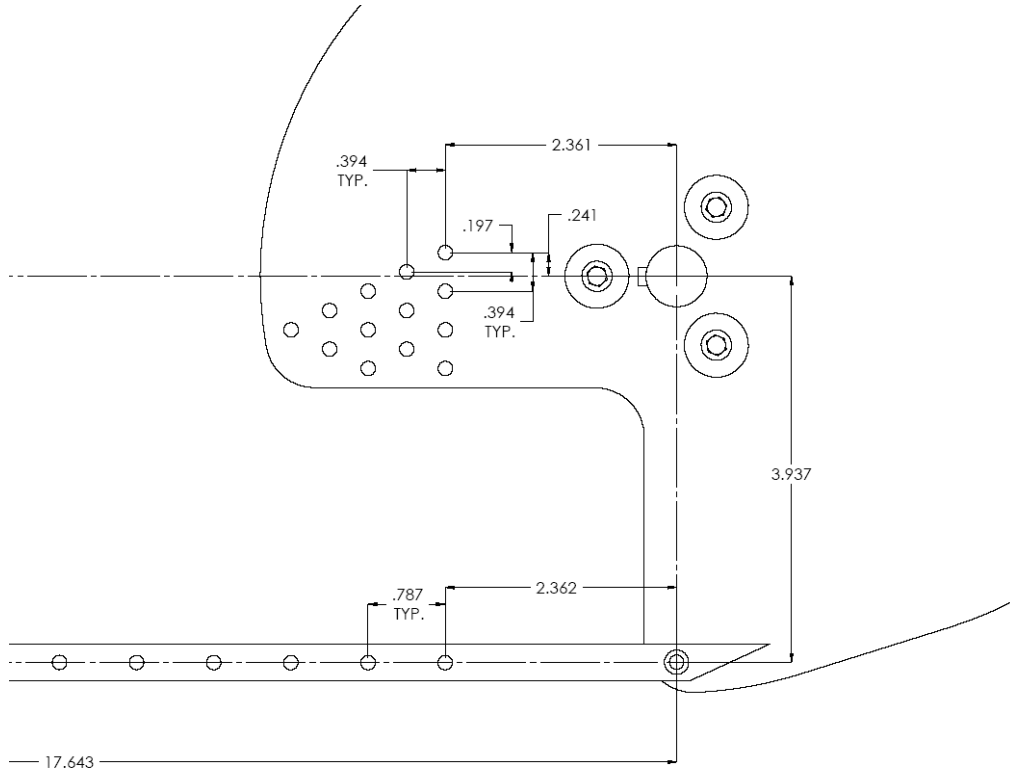
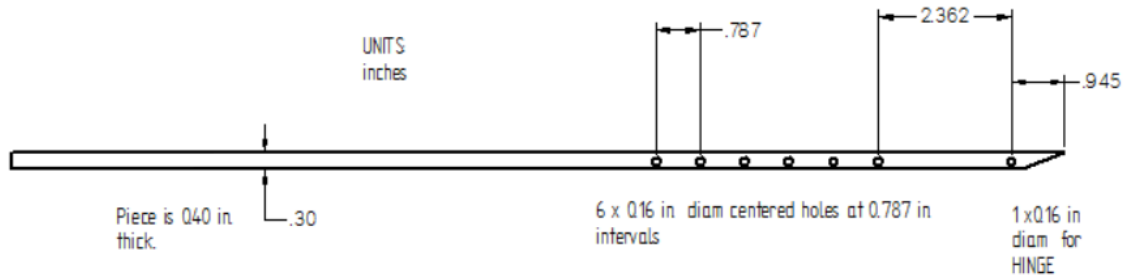

Figure 2
Figure 3
Your link must hold the blade in place without excessive deflection up to a rotational speed of 1300 rpm. To determine if there is excessive deflection or failure of the link, a small paper doll will be placed just outside the circle traced by the spinning blade. If the doll is not damaged after the blade reaches 1300 rpm the deflection of the link will be judged acceptable. The blade must be held at the angle shown in Figure 2 (within $\pm 5^\circ$ when the link is first assembled).
A portion of a dimensioned drawing of the rotor assembly is shown in Figure 2, and the blade details are shown in Figure 3. One end of your link will be joined to the blade at one of the holes that are spaced
0.79 inches apart. You are free to select which of these holes you use. The other end of your link will be joined to the rotor at the holes that have the 0.39 inch spacing as shown on Fig. 2. You are free to select which of these holes you use. The shoulder diameter of the shoulder bolts that will hold the link is 0.250 inches. The prototype mechanism is in the Rotz Lab. You are encouraged to visit the Rotz Lab to view the mechanism, however, *don't turn the rotor mechanism on.*